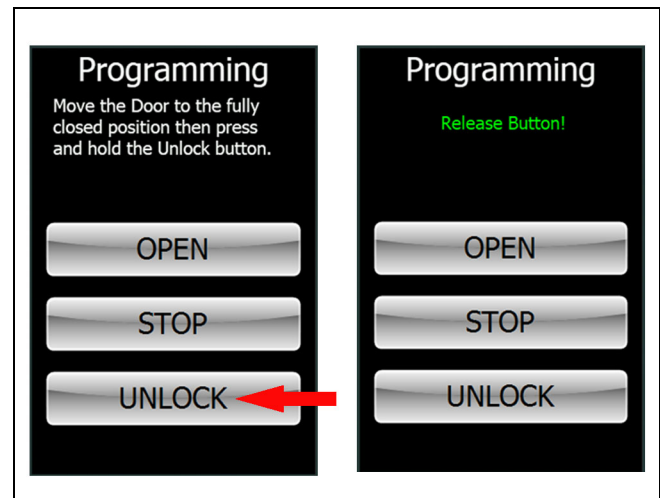

Figure 59
- Move the door manually to the fully closed position. Press and hold the "UNLOCK" button until the touch screen shows "Release Button!" or red and blue lights blink rapidly (on non-touch screens). See Figure 59.